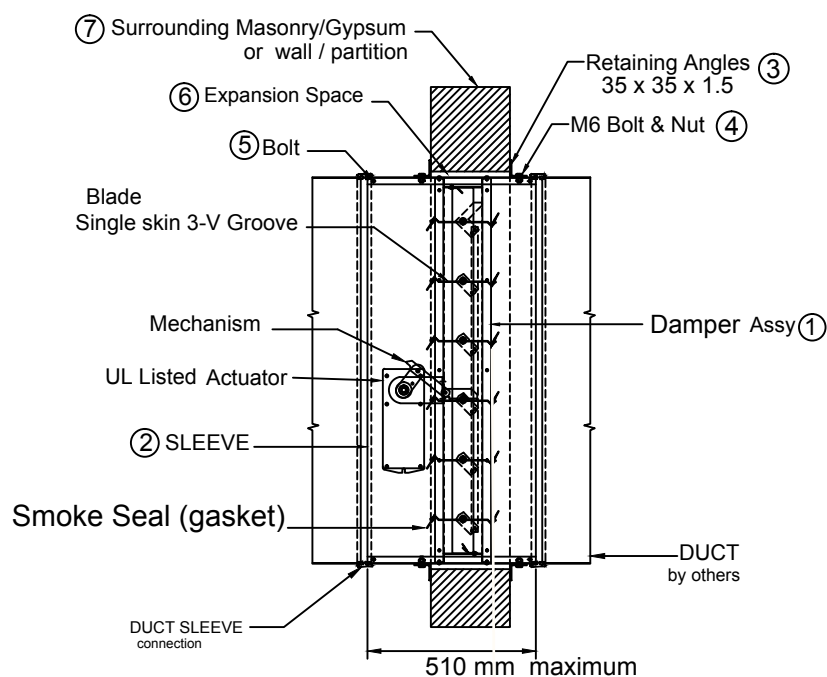

FIGURE 1
- 1) The damper ( 1 ) should be installed vertical, centrally and resting on the bottom opening within the surrounding masonry / gypsum wall ( 7 ). Actuator should be out of wall / gypsum partition as shown in ( figure 1 ).